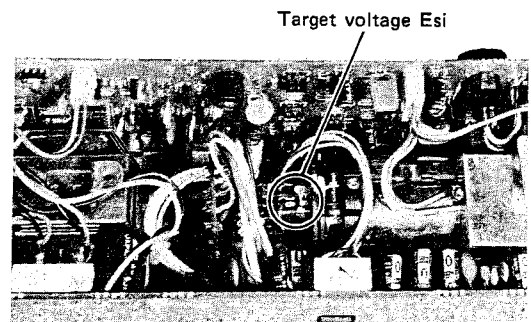

Fig. 6
- Adjust TARGET VR202 so that the voltage at TP3 is equal to the E_{sj} value stamped on the Newvicon neck. (Fig. 6)